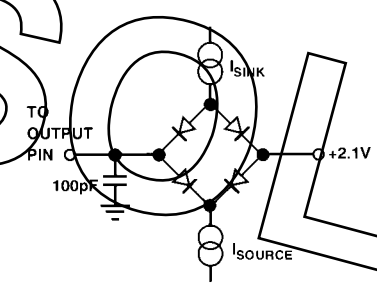

Figure 1. Load Circuit for Databus Access and Relinquish Times
- ¹TTL input values are 0 to 3 volts, with input rise/fall times ≤ 3 ns, measured between the 10% and 90% points. ECL inputs (CLOCK, $\overline{\text{CLOCK}}$) are $V_{AA}-0.8$ V to $V_{AA}-1.8$ V, with input rise/fall times ≤ 2 ns, measured between the 10% and 90% points. Timing reference points at 50% for inputs and outputs. Analog output load ≤ 10 pF. Databus (D0-D9) loaded as shown in Figure 1. Digital output load for LOADOUT, PRGCKOUT and SCKOUT ≤ 30 pF.
- ⁸ t_{23} and t_{24} are measured with the load circuit of Figure 1 and defined as the time required for an output to cross 0.4 V or 2.4 V.
- ⁹ t_{25} is derived from the measured time taken by the data outputs to change by 0.5 V when loaded with the circuit of Figure 1. The measured number is then extrapolated back to remove the effects of charging the 100 pF capacitor. This means that the time, t_{25} , quoted in the Timing Characteristics is the true value for the device and as such is independent of external databus loading capacitances.